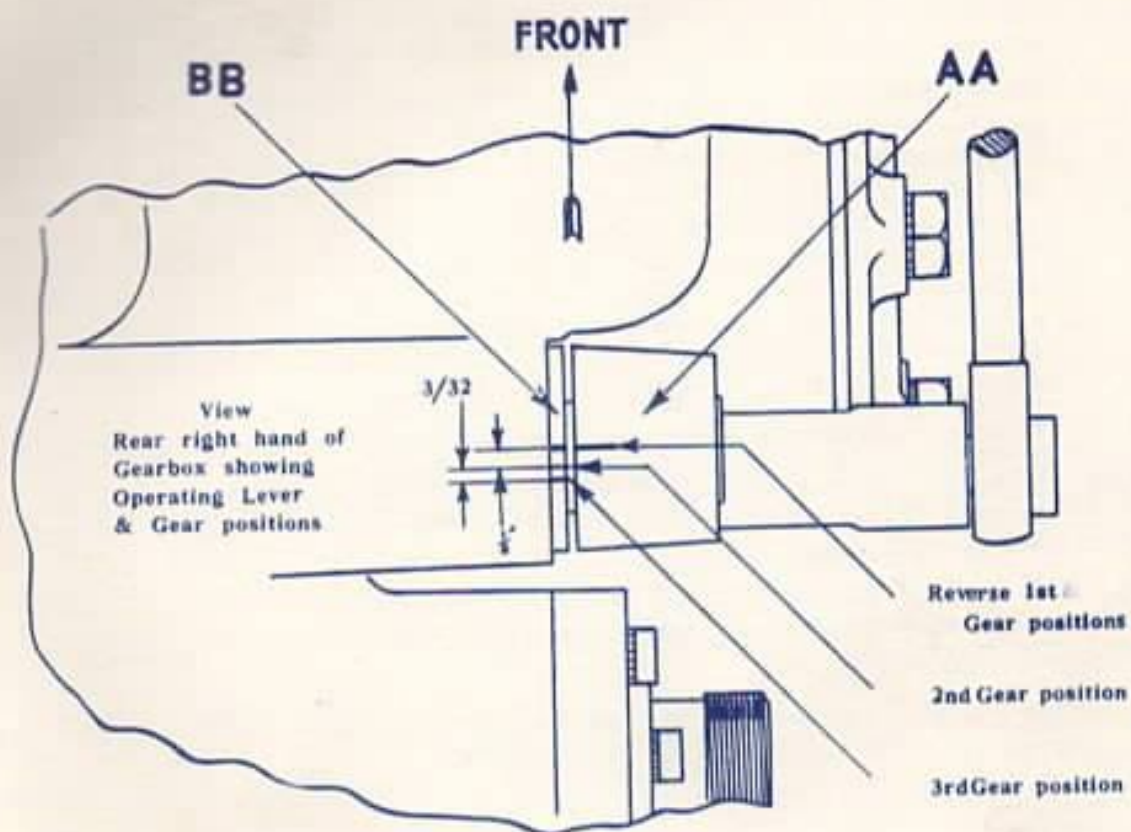

FIGURE 3
- 3 Select and engage reverse gear, adjust the automatic adjusting nut "A" until the two marks on the bus bar operating lever "AA" and bus bar operating bush "BB" are in line, see top figure 3. The pedal should be allowed to return sharply when making these adjustments to ensure there is no sticking of the band operating mechanism.
**Note.**—See Figure 3, for lever marked positions.